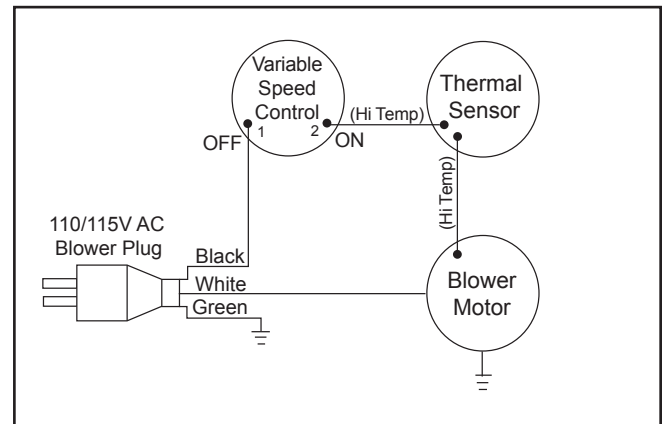

Figure 13
1. Connect the wiring according to the wiring diagram. Figure 13
1. Connect all wiring per wiring diagram. See Figure 13.
9. Attach wires as per wiring diagram. Figure 13.
4. Route wiring along the side of the chamber back towards the blower. Wire per wiring diagram. See Figure 13.